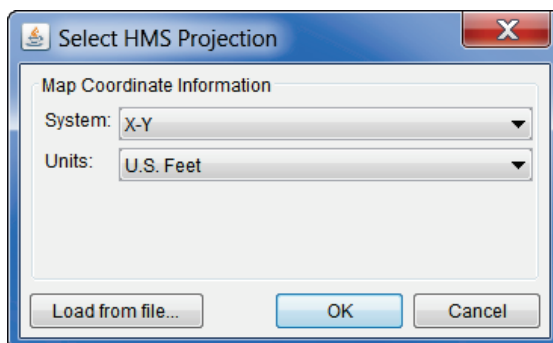

**Figure K.22** HMS Reach to Stream Editor - Completed
11. Once the stream station has been entered into the **HMS Reach to Stream Editor** (Figure K.22), the user will need to remove the stream node/junction from the schematic. This has to be done, because any changes to the stream station will affect an HEC-ResSim model alternative.